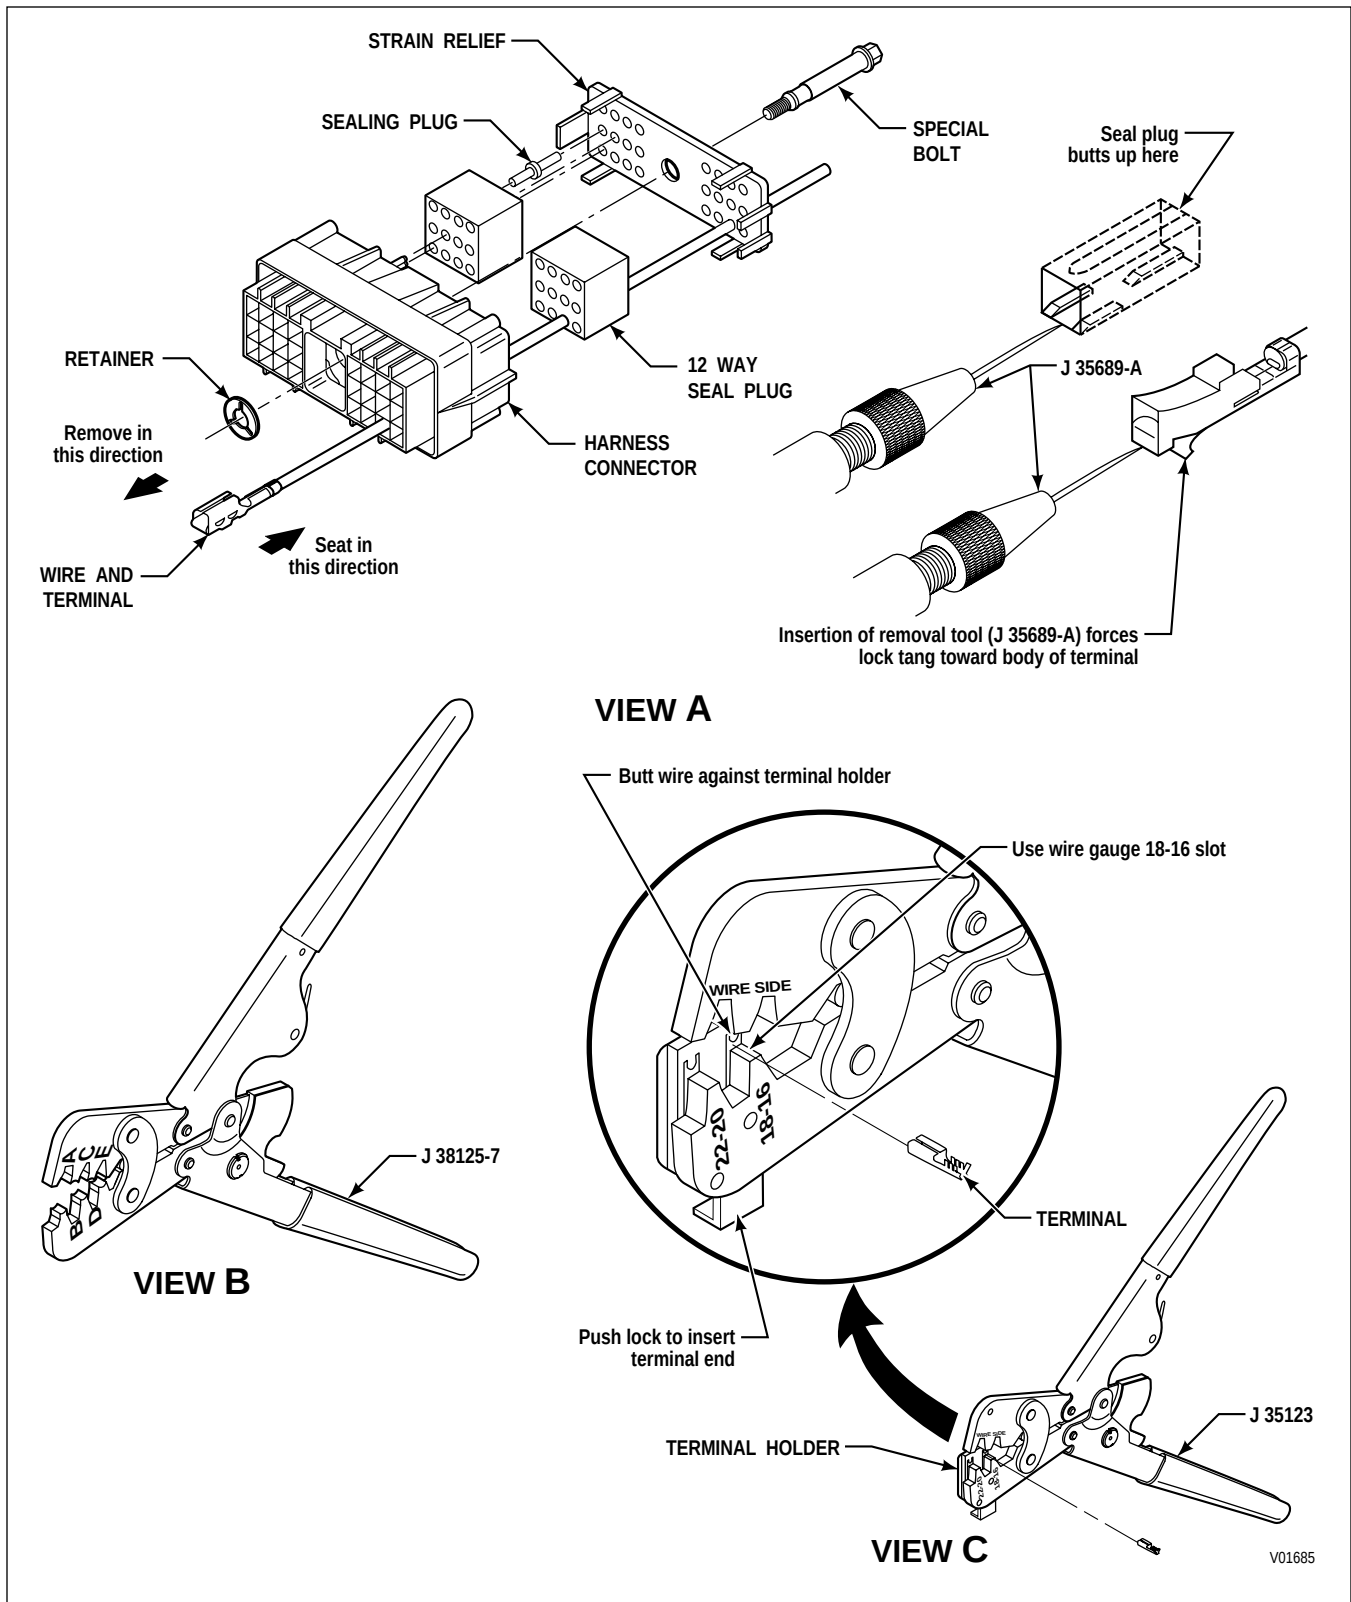

Figure C-2. Delphi-Packard Metri-Pack 150 Series Connectors — Pull-to-Seat (Speed Sensor, 30-Way and 18-Way VIM)
1. Insert needle end of terminal remover J 35689-A into the small notch between the connector and the terminal to be removed (Figure C-2, View A). Push the lock tang toward the terminal.